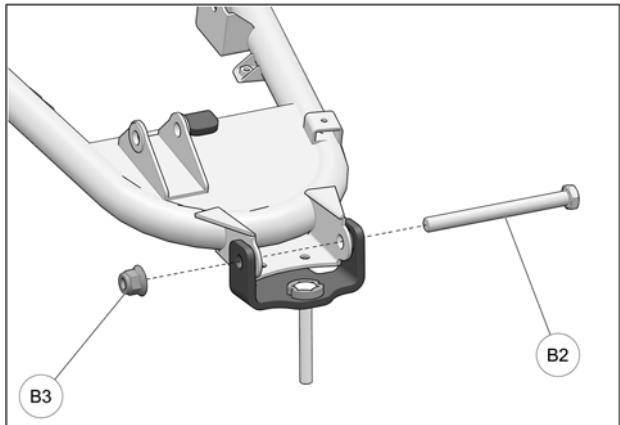

Fig. 8
8. Insert the new M12x130mm bolt (B2) through anchor bracket, suspension arm and wheel knuckle. Secure assembly with the provided M12 nut (B3). Torque nut to 88 N·m [65 lb·ft]. See Fig. 8